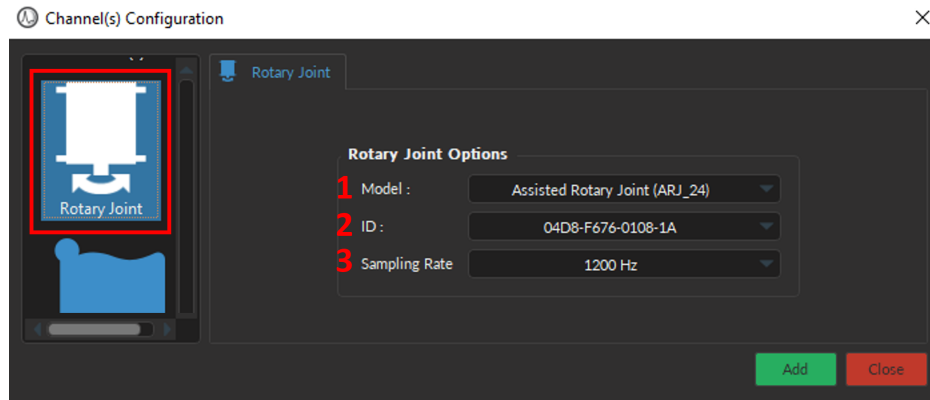

Figure 11.58: Rotary Joint channel
1. The **Model** (Fig. 11.58, 1) displays the type of rotary joint available. Assisted rotary joints (specifically ARJ24), when connected to the computer, will be automatically detected. Compatible devices include:
2. The **ID** (Fig. 11.58, 2) displays the serial number of the rotary joint in question, which identifies the proper device when more than one rotary joint of the same model is connected to the computer.
3. The **Sampling Rate** (Fig. 11.58, 3) specifies the number of data points per second that are saved in the *.doric* file. The **Sampling Rate** can range between 10 Hz - 1200 Hz.